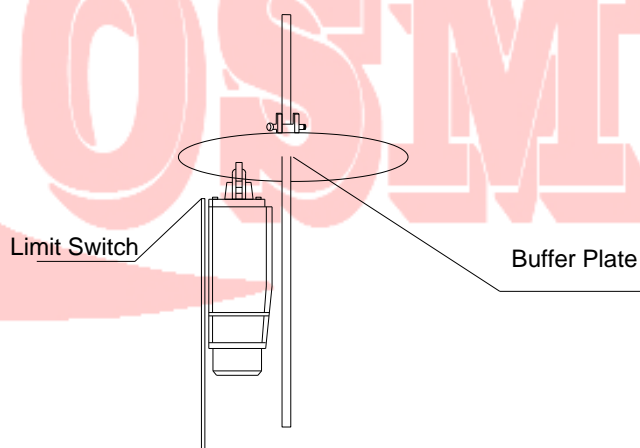

Figure 17 Installation of Buffer Plate
5.4.5 Installation of buffer plate: Anchor buffer plate as following pictures. (See Figure 17)